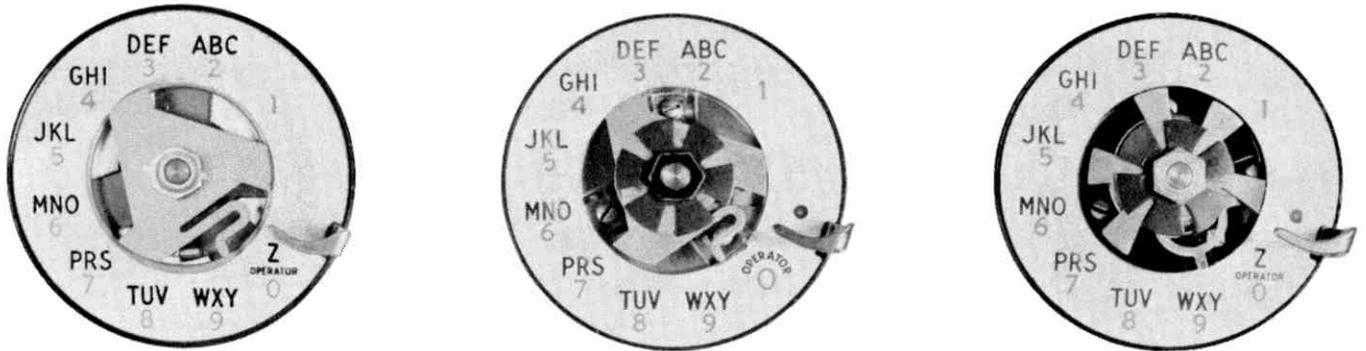

Fig. 14 — Clamp Plates Mounted on Dials
- (1) With dial in normal position, place fingerwheel clamp on dial hub so that spring portion is near digit 9 on number plate, as shown in Fig. 14.
- (2) Place fingerwheel washer and nut on hub and tighten (omit spring washer on 5-type dial).
- (3) Place station number card in fingerwheel between window and card support.